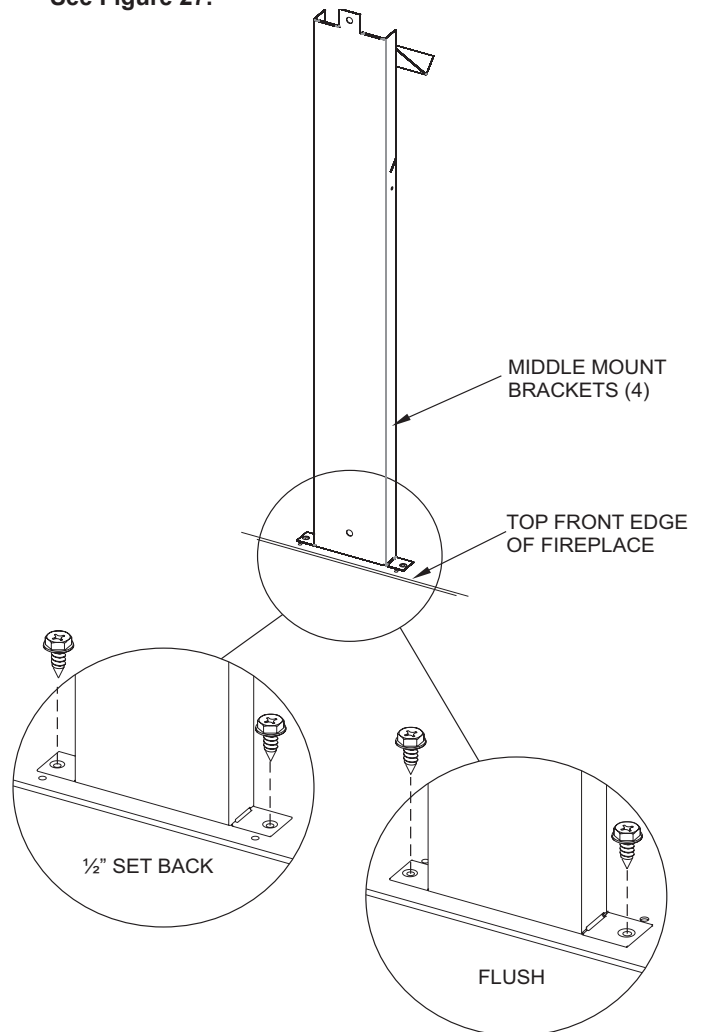

Figure 29
3. Attach three middle mount framing brackets to the top front edge of the fireplace. These brackets support the supplied non-combustible board above the fireplace. Preset depth to suit facing material (flush or 1/2 inch set back depths). See Figure 29.